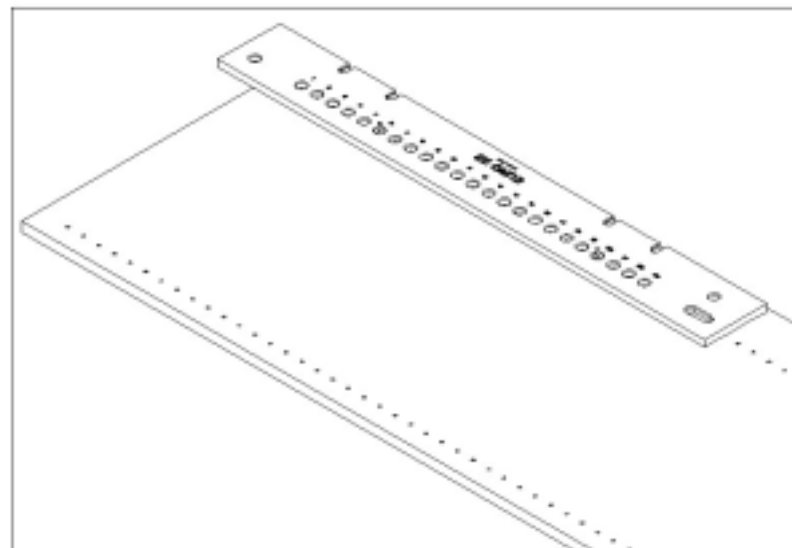

Figure 24
13. Place the hole-boring template over the pins and clamp the template to the work-piece as shown in Figure 24.